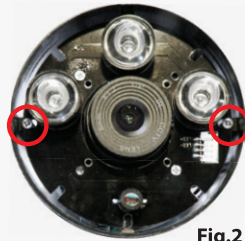

Fig.2
Step 2: Remove both screws on the side which are holding the LED board in place. Then carefully take out the whole unit which consists of LED board, lens and the sensor unit (Fig. 2).